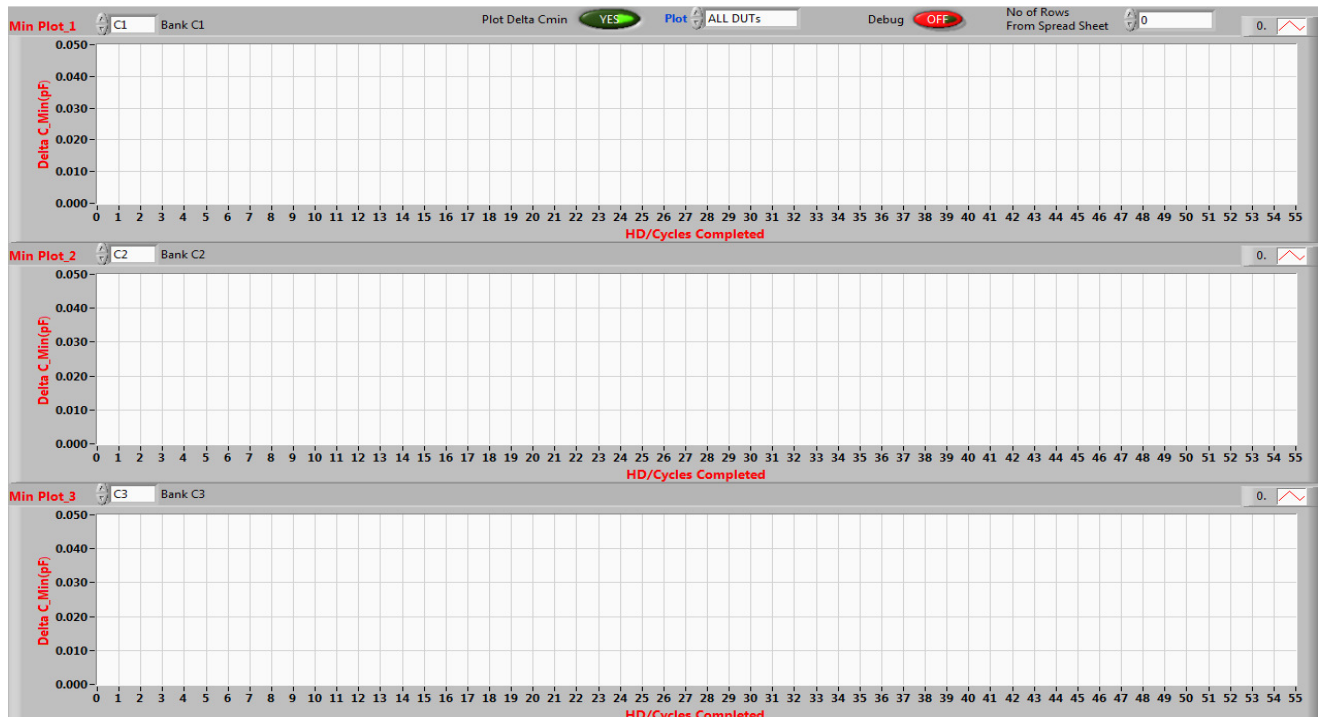

Figure 13 This shows the Output results for monitoring the instantaneous changes in CMin
- Figure 13 shows the output results, so that changes in CMIN can be monitored during stress.